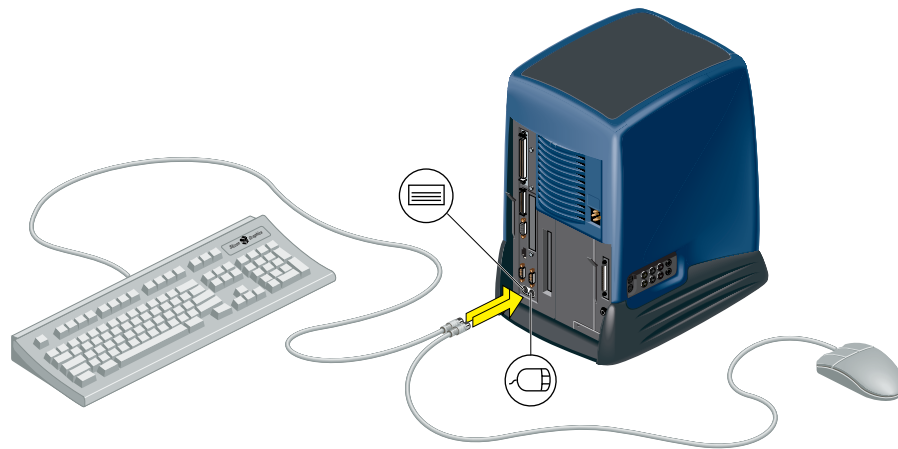

Figure 1-6 Connecting the Keyboard and Mouse to the Workstation
1. Connect the keyboard and the mouse to the workstation (Figure 1-6).